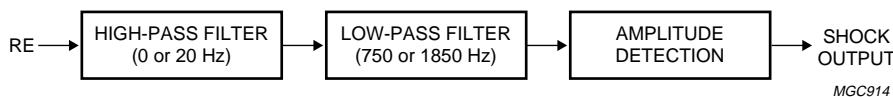

Fig.21 Block diagram of radial shock detector.
The shock detector (see Fig.21) can be switched on during normal track following, and detects within an adjustable frequency whether disturbances in the radial spot position relative to the track exceed an adjustable level (controlled by shock_level). Every time the radial tracking error (RE) exceeds this level the radial control bandwidth is switched to twice its original bandwidth and the loop gain is increased by a factor of 4.